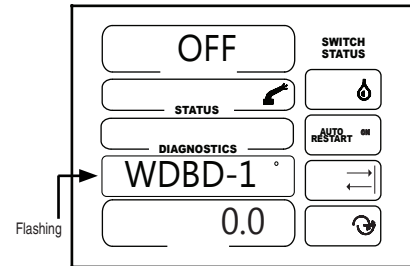

Figure 16-1
- If the sector was never programmed then the off angle should start with the same position as the on angle set in step 3. See figure 16-1.